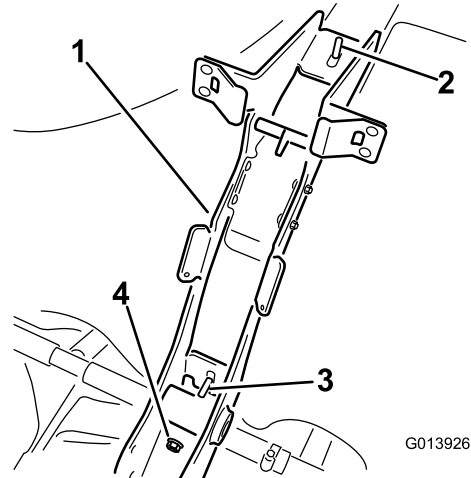

Figure 7
4. Install a lock nut over the lower exposed bolt passing through the frame to secure it to the tank strap (Figure 7).